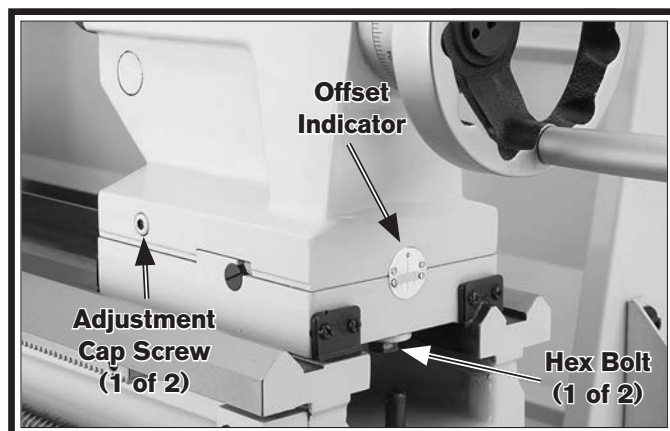

Figure 51. Tailstock offset controls.
1. Loosen the hex bolts underneath both ends of the tailstock to release the clamping pressure between the top and bottom castings (see **Figure 51**).